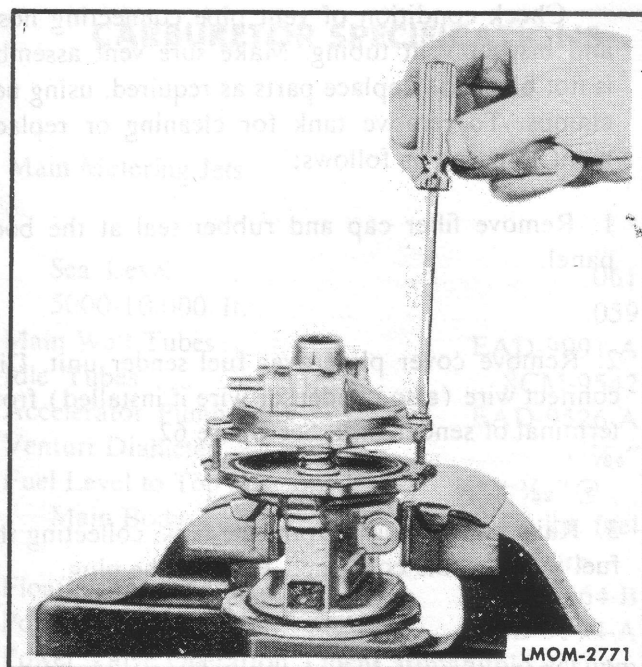

Fig. 60—Install Two Long Screws in Opposite Holes Across Body.
16. Install two long screws (10-32 x 1½") in opposite holes across body as shown in figure 60. Turn them down alternately until the original shorter screws can be engaged. Tighten cap screws until they press lightly against the lockwashers. Remove the two long screws and install the remaining short screws.